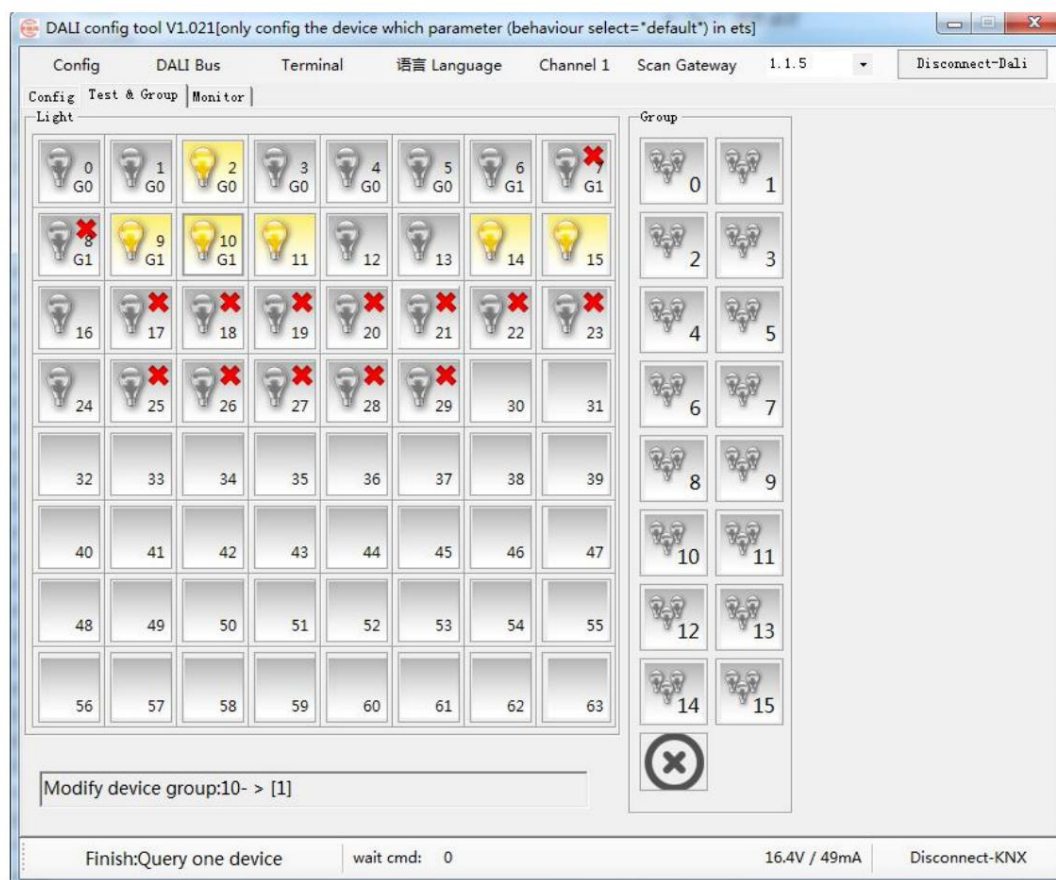

Fig.3.10 Test&Group Interface
② **ReadDevice:** Select a DALI device in the device list, click button "ReadDevice", read all the information of the device through DALI bus and synchronously display in the software, such as group configuration, scene configuration and parameter setting, etc.
③ **StoreDevice:** Store the modified configuration of the device. After storing, this device on the DALI bus can be directly applied to the saved configuration.
④ **ReadSpecDeviceInput** device address in the text box and read the status information of the device, at the same time, parameter configuration of the device in the debug software will also synchronously update. For example: when a DALI device is damaged and needs to be replaced, user can read the status information of the device first, then store the damage information to the new device after it is replaced with the new device.(Note: **ensure DALI addresses of both new and old device are the same.**)
⑤ **Addr.:** Display the DALI address of the selected DALI device, users can modify DALI address in the “Test&Group” window interface, as shown in the following Fig.3.10.
⑥ **Desc.:** Device Description, to add a name for DALI device, for example, 2#lamp.
⑦ **Device Type:** Display DALI device type, such as DT6 for displaying 6 in the column
⑧ **Group:** Display the group that DALI device belongs to. “NotJoin” for not assigning to any group. Users can assign DALI devices to a group in the “Test&Group” window interface, as shown in Fig.3.10. After the device is assigned to the group, it will displays in the group list, as shown in the following Fig.3.8.
⑨ **Parameter Setting:** Parameter setting of the DALI device including fade time, fade rate, max.level brightness, min.level brightness, power on level, system failure level and Phys.Min.level brightness, in which Phys. Min.level brightness is the characteristic of the DALI device and cannot be modified.
Test&Group interface as shown in Fig.3.10, here you can view all the connected DALI devices on the DALI bus, including ballasts, lamp failure status, grouping, and so on. Switch operation of each lamp and each group, modification of DALI device address and group assignment of DALI device can be operated.